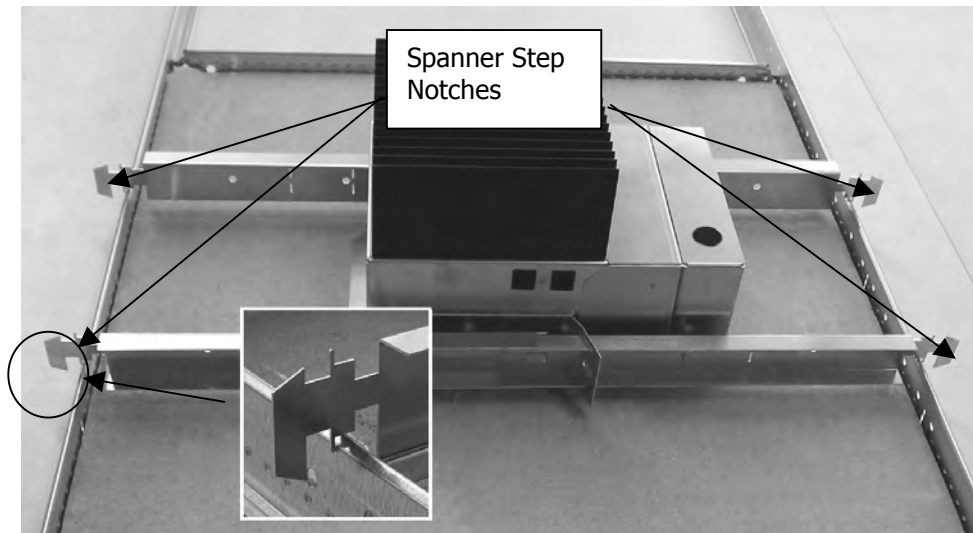

Figure 5: Placement of Light Fixture on Tile
- Position step notches at the ends of the spanner rails onto the ceiling grid so the fixture flange rests lightly on the ceiling tile. It may be necessary to remove the spanner from the fixture assembly and flip over to achieve the correct notch position. See Figure 5.